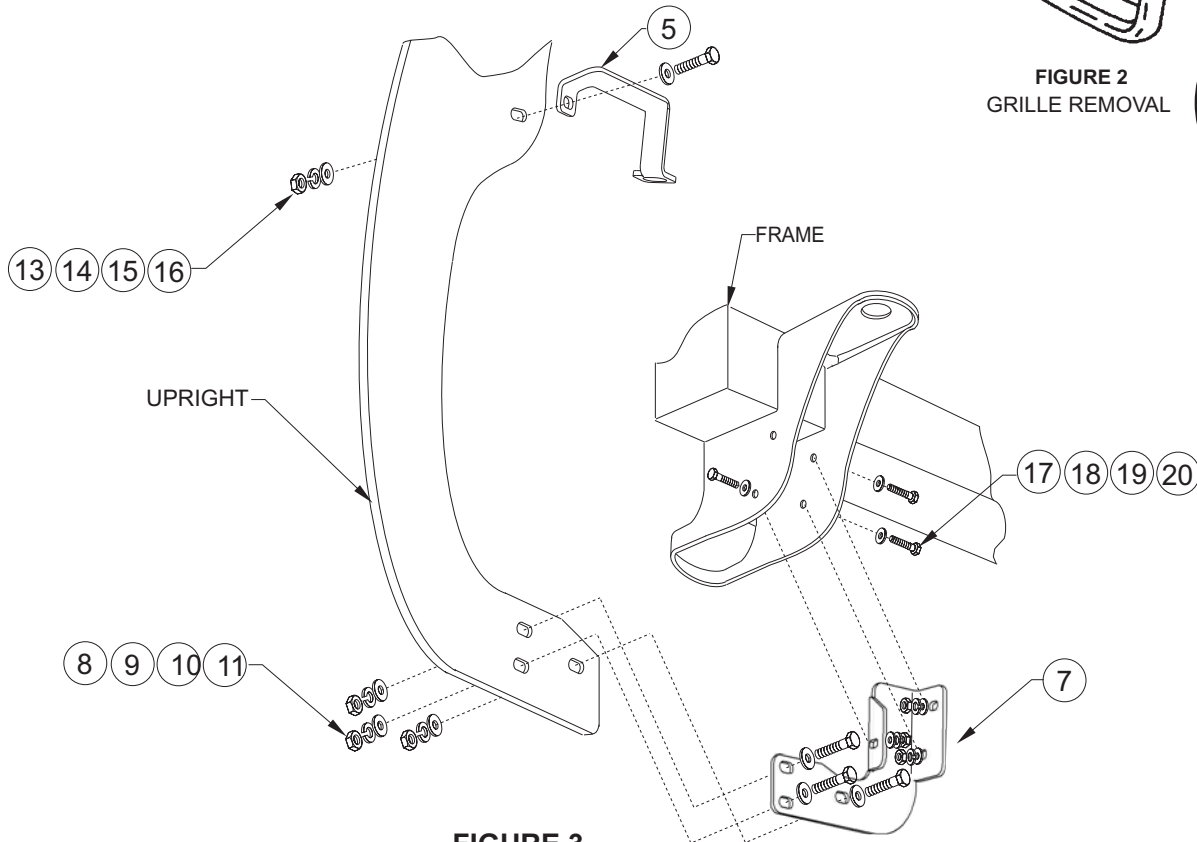

FIGURE 3
- STEP 5. From underneath the front of vehicle, locate the front body mount. Determine passenger side and driver bottom brackets. **SEE FIGURE 3.** Attach brackets to inside body mount channel with 3/8" yellow zinc fasteners. Hand tighten. **NOTE:** If vehicle is equipped with underbody shield package it will be necessary to remove the front shield. If shield is to be reinstalled, both ends will need to be trimmed to fit around mount brackets. Mounting hardware supplied with the Sportsman will still be used.